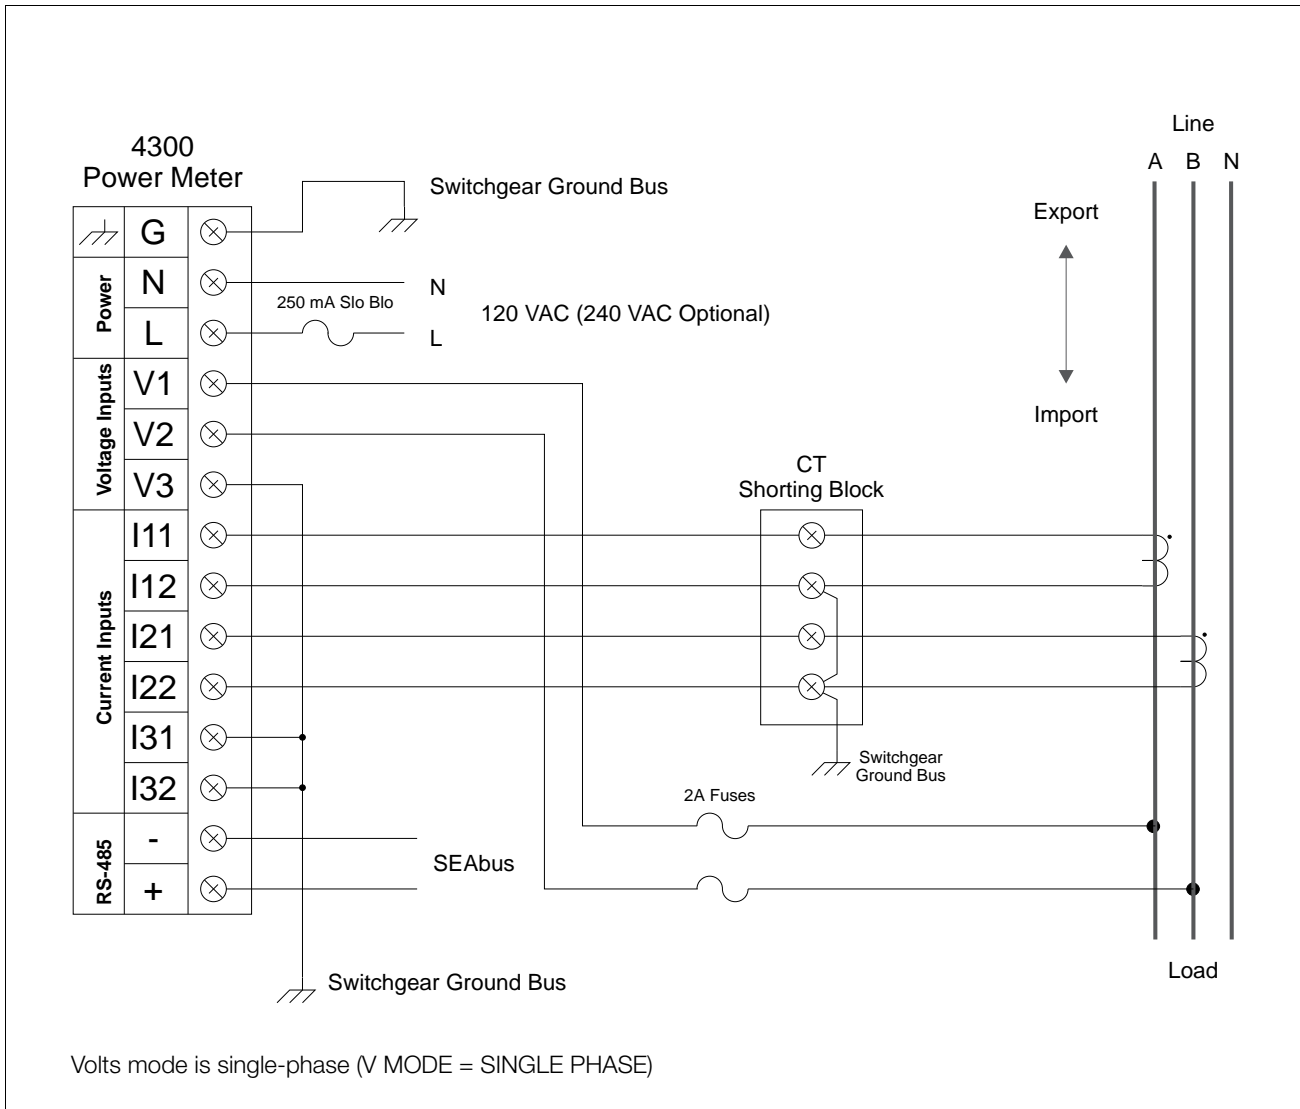

Figure 2.7 Three-Wire Single-Phase, Two-Element Direct Connection
- Three-Wire Single-Phase, Two-Element Direct Connection (**Figure 2.7**)
You must also connect the wiring from the outputs of the two CTs to the meter's corresponding I11/I12 and I21/I22 input pairs. This connection is illustrated in **Figure 2.7**.